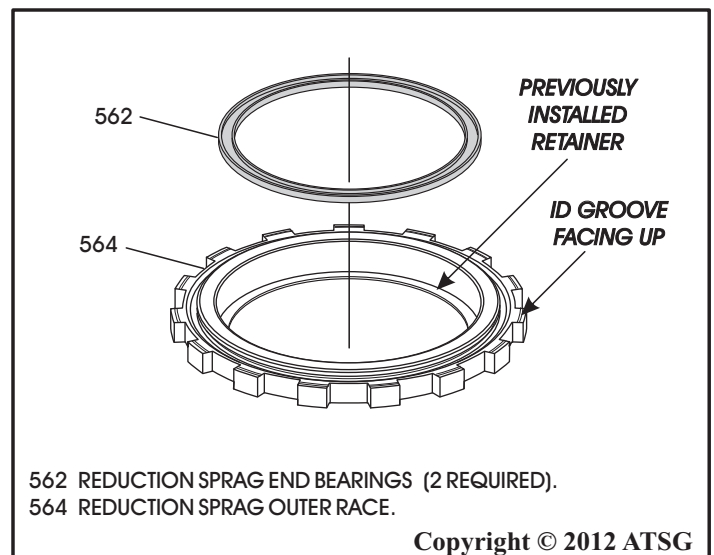

Figure 102
13. Install one reduction sprag end bearing, as shown in Figure 102, into the reduction sprag outer race.